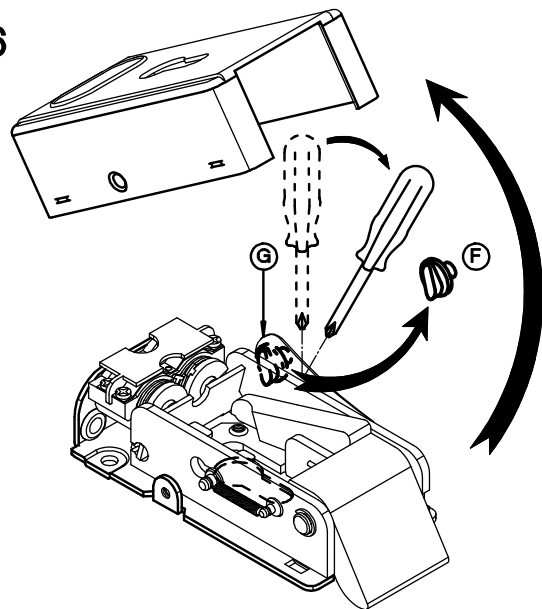

Fig.4
GB TO ADJUST THE BACKSET OF THE LOCK (ONLY FOR LOCK V9083 WITH ROUND CYLINDER - SEE FIGURE 4)
D EINTRITT REGELUNG (NUR FÜR ELEKTROSCHLOSS V9083 MIT RUNDZYLINDER - SEHEN SIE FIGURE 4)
F POUR REGLER LA DISTANCE D'ENTREE (SEULEMENT POUR SERRURE V9083 AVEC CYLINDRE ROND - VOIR FIGURE 4)
(GB) HOW TO CHANGE OPENING FUNCTION (ONLY FOR LOCKS V06 AND V9083 - SEE FIGURE 4)
(D) ÖFFNUNG ÄNDERUNG (NUR FÜR ELEKTROSCHLÖSSER V06 ET V9083 - SEHEN SIE FIGURE 4)
(F) MODIFIER LA FONCTION D'OUVERTURE (SEULEMENT POUR LES SERRURES V06 ET V9083 - VOIR FIGURE 4)